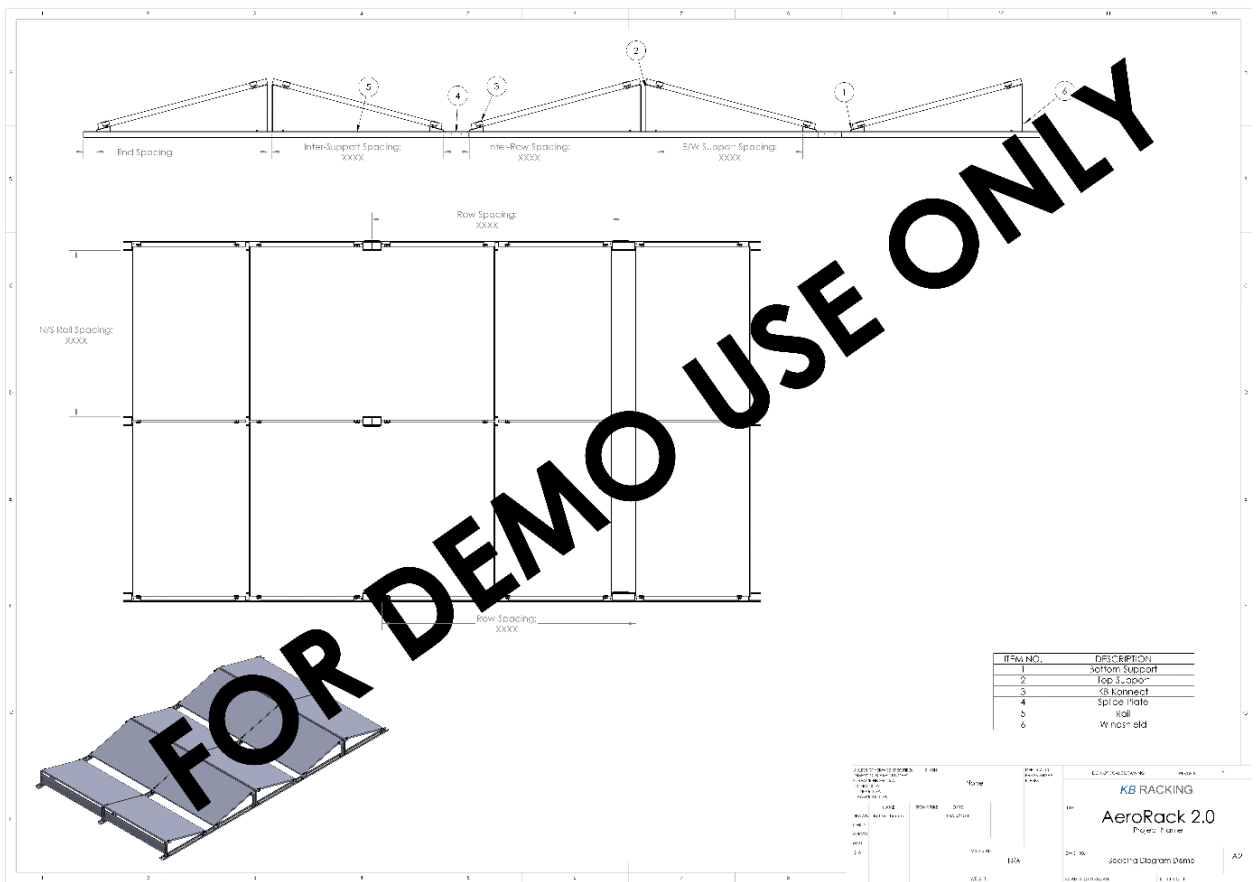

Figure 9 – Sample Spacing Diagram
- 3 Use your *Spacing Diagram* to obtain the E/W Rail Spacing (see example, Figure 9).
Use your *Spacing Diagram* to obtain the N/S Rail Spacing (see example, Figure 9).